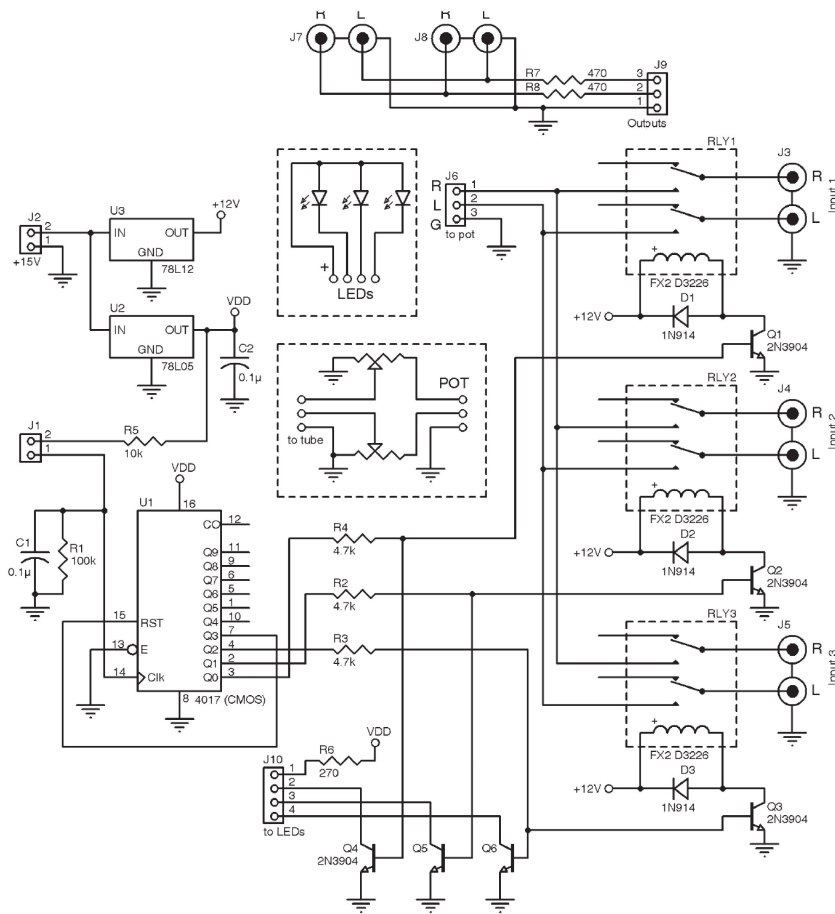

Figure 4: The schematic for the 1T4 amp input
I like using relays to shift inputs, but usually I use microcontrollers to shift inputs. Since I wanted to keep this design accessible to the largest audience possible, I used a counter (CD4017) and a simple normally open (NO) push button switch to change the inputs (see **Figure 4**). Ideally, the signal and the ground should be isolated but that would mean adding another relay for each circuit, which I wanted to avoid. By all means, set up your design to do this if you like. Also, as in my other designs, I use different color LEDs for each input. This eliminates the need for text on my case faces and gives me a quick visual indication of the output I'm on (see **Photo 4**). This is another design feature that has worked